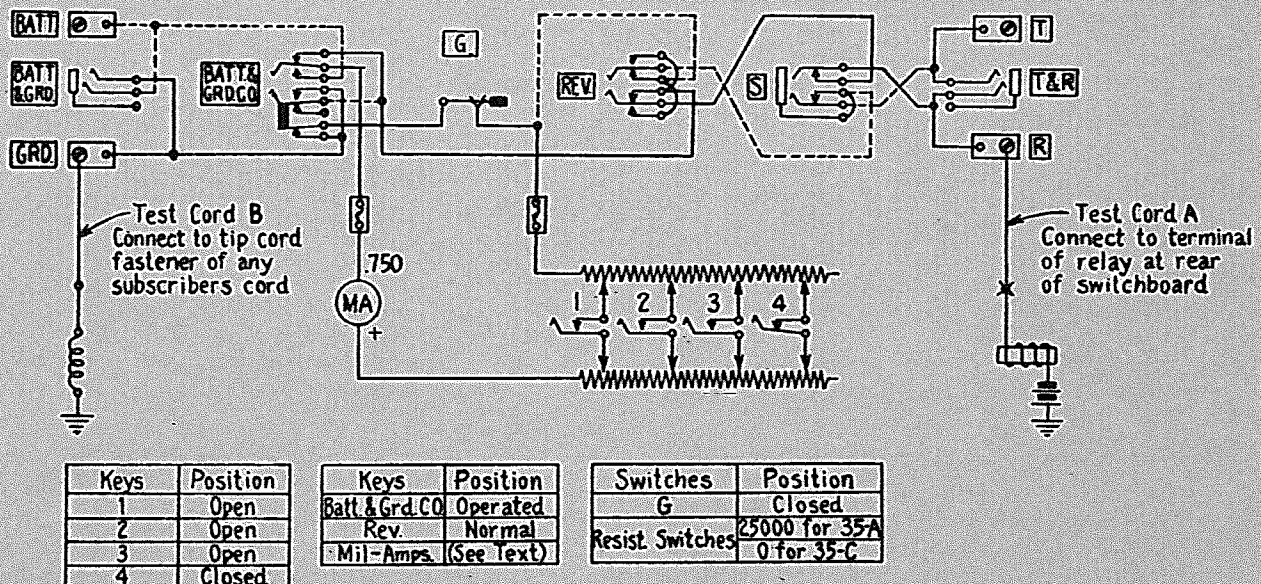
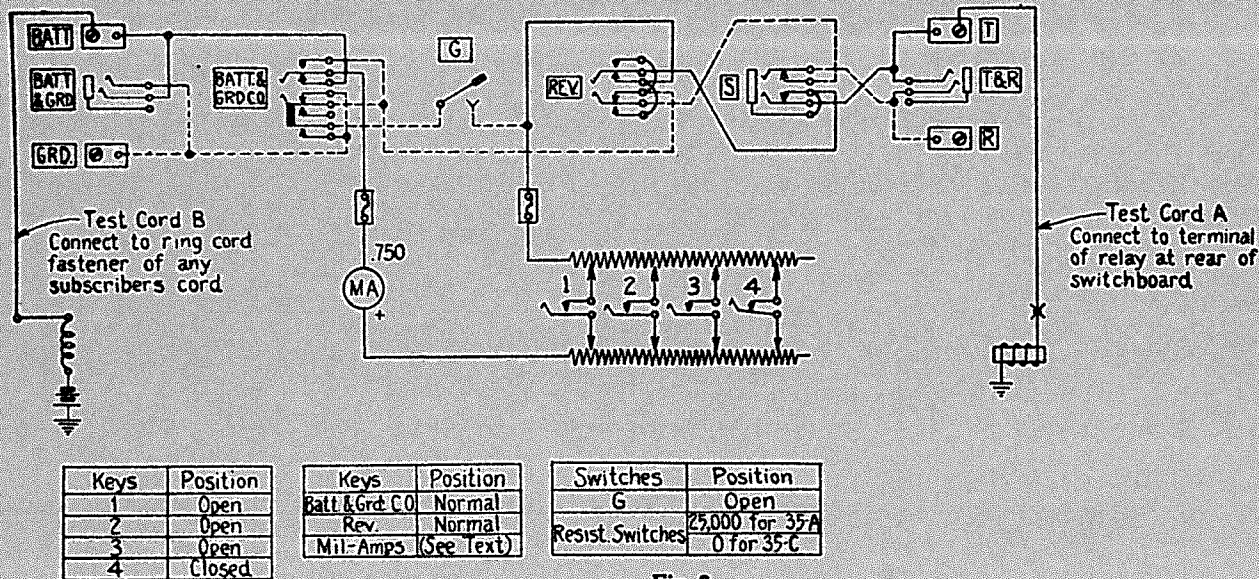

Fig. 1
Fig. 2
- 3.2 Arrange the test set keys and switches as shown in Fig. 1, for relays having battery on the winding.
- 3.4 Arrange the test set keys and switches as shown in Fig. 2, for relays having ground on the winding.
other end of the cord to the R or T terminal of the test set as shown in either Fig. 1 or Fig. 2 as required.